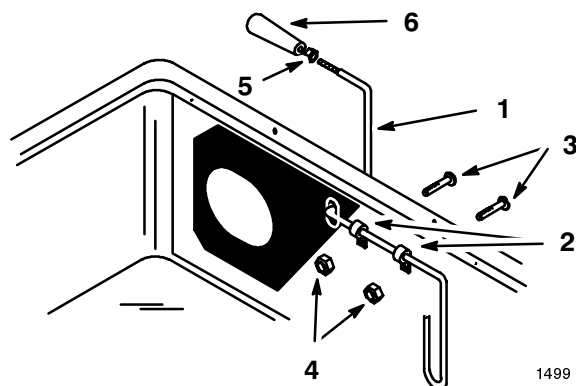
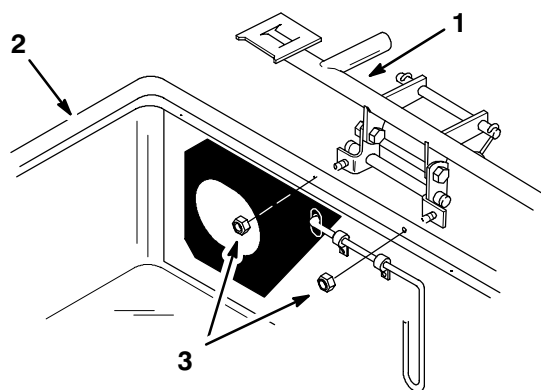

Figure 7
Figure 8
1. Install the “full-bag” indicator rod through the hole in the rubber seal and the slot in the bagger cover (Fig. 8). Mount the full-bag indicator rod against the bagger cover using two clips, 1/4 x 3/4" screws, and 1/4" lock nuts (Fig. 7).
2. Screw the jam nut completely onto the indicator rod (Fig. 8). Then screw the handle (Fig. 8) close to the jam nut so you can read the decal from the operator's position. Tighten the jam nut up against the handle to lock it in place.
3. Attach the frame assembly to the bagger cover with (2) 1/4" lock nuts (Fig. 8).